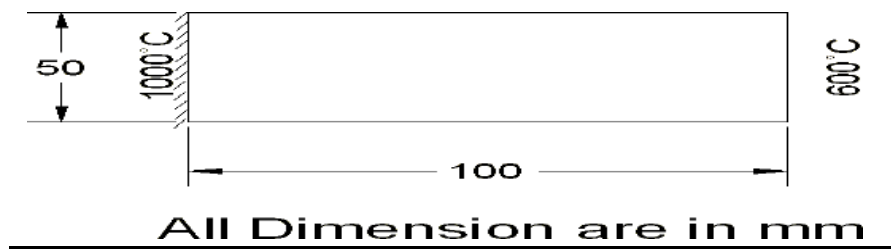

Figure 5
1. To determine the Thermal deformations at various points of a 2D component due to the Temperature load applied over it is shown below in figure 5..(An)